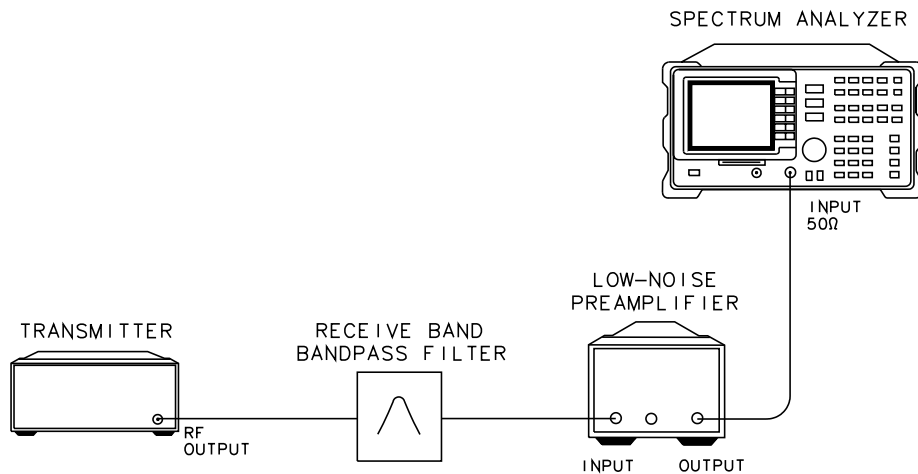

Figure 18 Test Setup for Transmitter Output RF Spectrum Due to Modulation - RX Band
- 3 Connect the receive-band BPF and the optional amplifier as illustrated in Figure 18 on page 58.